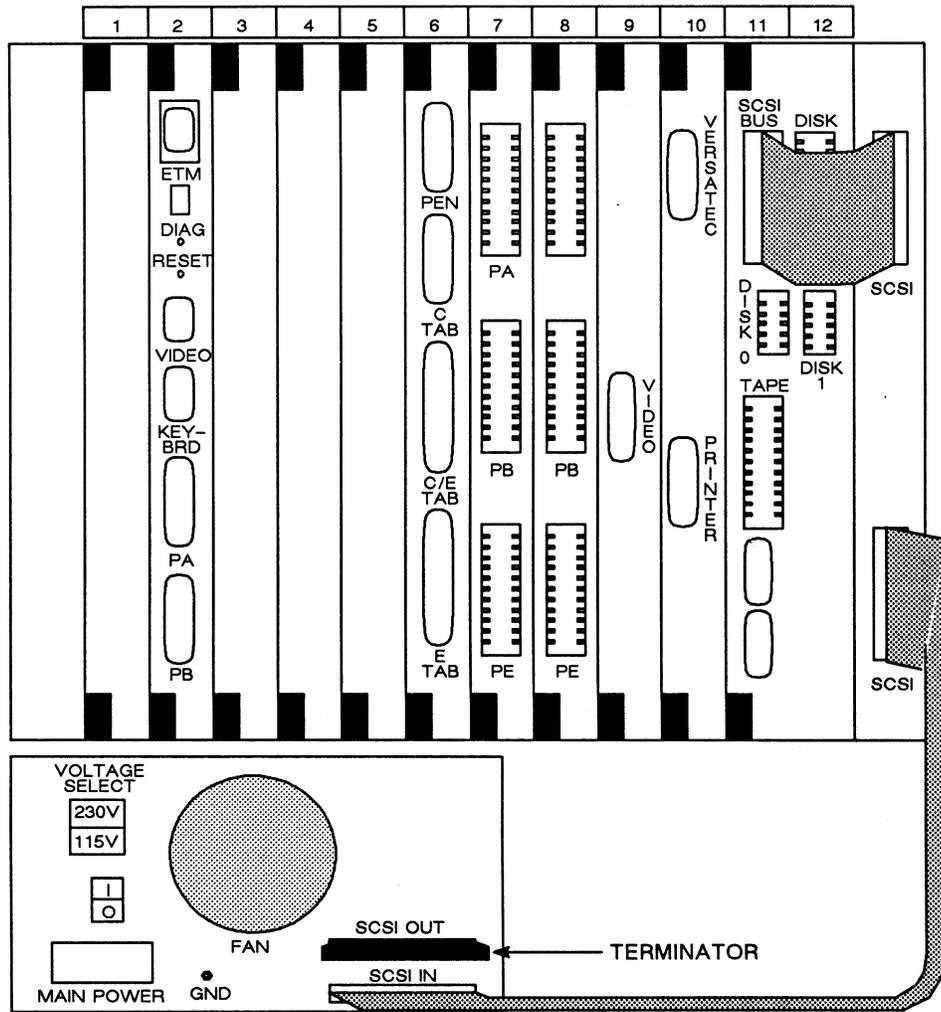

Figure 7-15. Expansion Box Connections for a Diskful CADDStation with an SMPL Board
1. Using a short, flat-ribbon cable with two male 50-pin connectors, plug one connector into the SCSI Bus female connector on the SMPL board. Plug the other connector into the top outside female SCSI connector on the CADDStation deskmate module. See Figure 7-15.
Figure 7-15 shows the connections for a diskful CADDStation with an SMPL board and an expansion box.